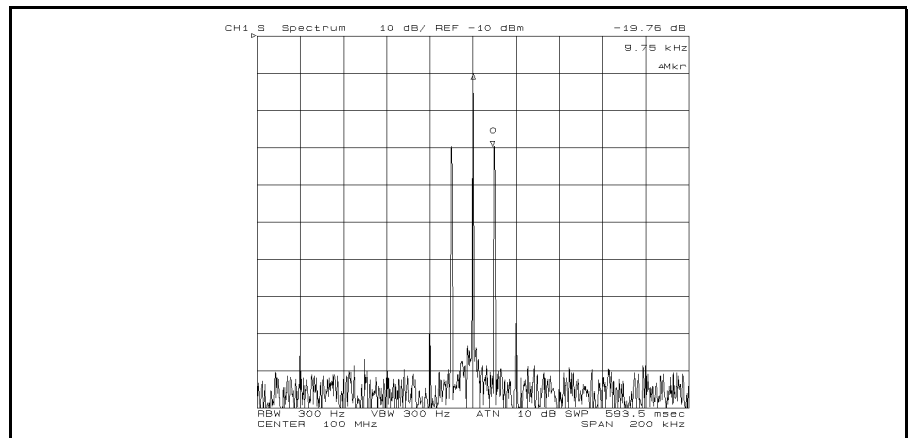

Figure 4-13. Modulating Frequency of AM Signal
4. Press **Search** **SEARCH:PEAK** **NEXT PEAK** to search for a sideband. The offset value from the carrier is displayed as the marker sweep parameter value shown in Figure 4-13. This value is the modulation frequency.
where ΔMkr is the Δ marker sweep parameter value shown in Figure 4-13.